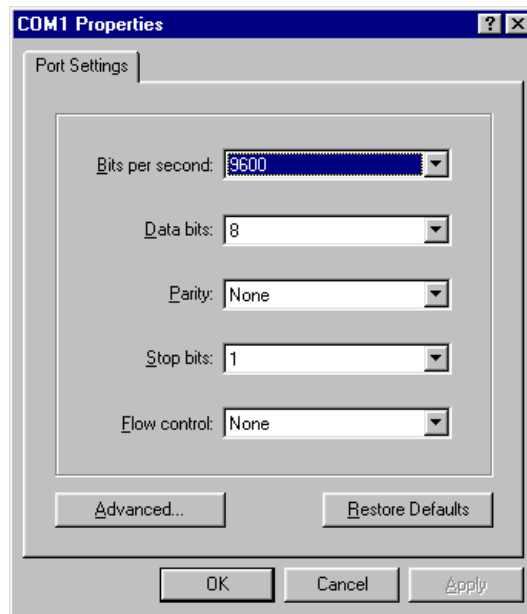

Figure 3. Port and Terminal Emulation Settings.
A typical sequence is shown in Figure 3. For illustration purposes, a connection is never successfully made.
Modems should be configured to disconnect if no data has been sent for a time longer than the total time duration of Figure 3. This will help avoid the situation of the remote modem being powered up and connected to the phone line, and the master end device disconnected or not generating hang up commands. The link may otherwise stay connected indefinitely.
The factory speed setting for the Autodialer is 9,600 bps, with 8-bits of data, no parity and one (1) stop bit, as reflected above in Figure 3. If the Autodialer's speed (Bits per second) is adjusted to a different speed, the Hyperterminal program must be configured to match the new speed setting.